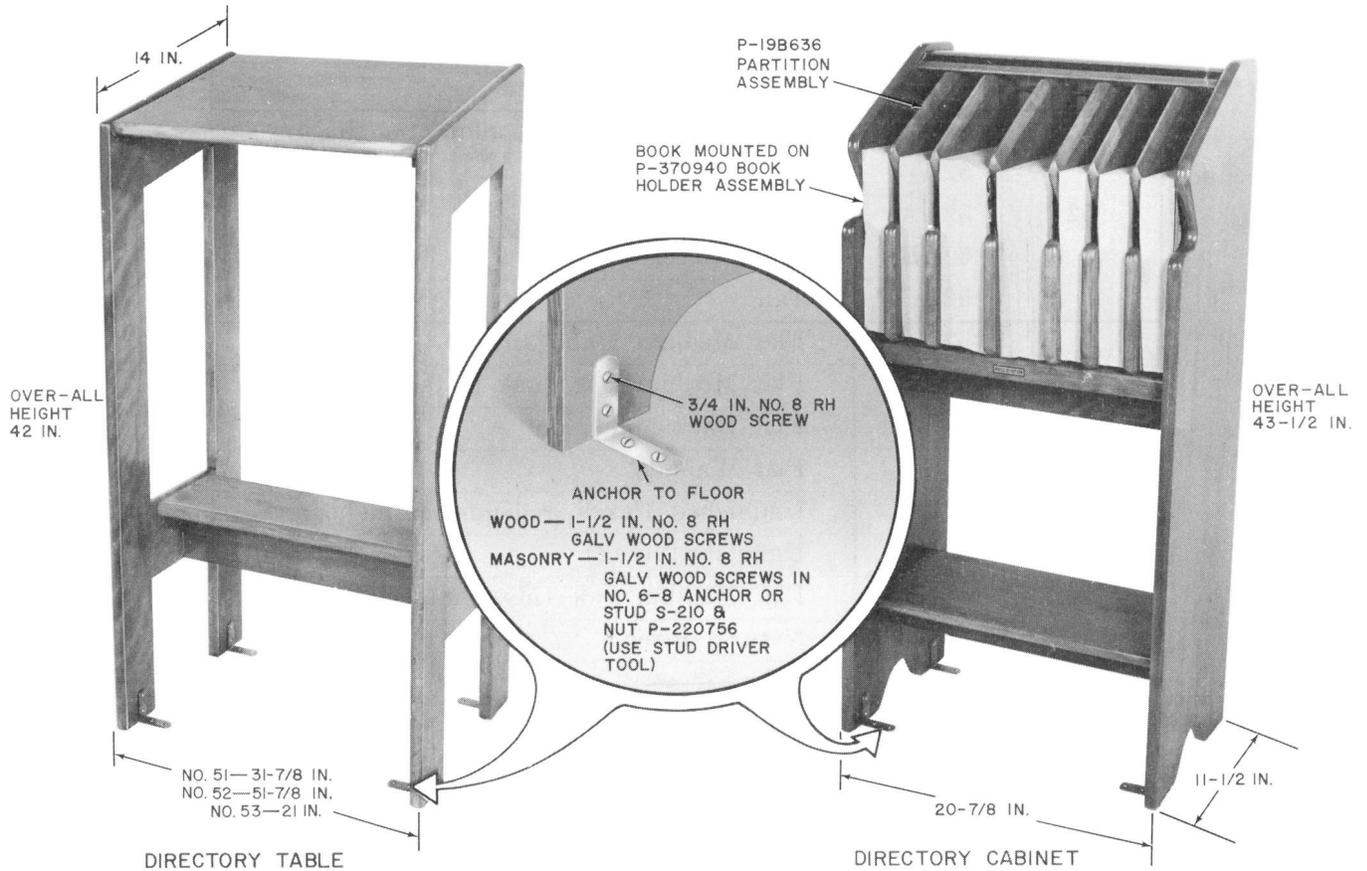

Fig. 8 — No. 51-, 52-, or 53-Type Directory Table and 24-Type Directory Cabinet
- 5.01** Three directory tables (51-, 52-, and 53-type) are available (Fig. 8).
- 5.03** The three tables are similar; they differ only in width (Fig. 8).
- 5.04** Anchor tables to floor per Fig. 8. The four angle brackets are furnished with table but screws must be obtained locally.
6.01 Only one type directory cabinet (24-type) is available (Fig. 8).
6.04 Anchor cabinets to floor per Fig. 8. The four angle brackets are furnished with table but screws must be obtained locally.